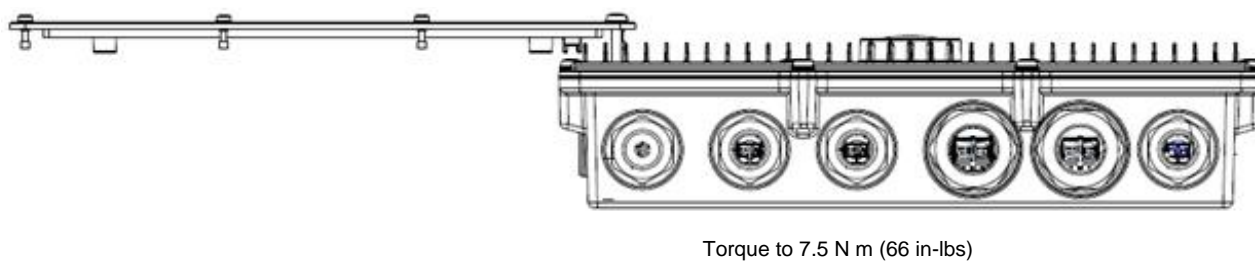

Figure 27: Secure the small top cover
The rectifier is equipped with plug-in AC input connectors located on the bottom of the enclosure. Mating connectors are provided. Customer must provide wiring to the mating connector. See Figure 21. Refer also to Figure 18 through Figure 27. See also “Customer Wiring to the Mating Connectors” starting on page 25.
**NOTE!** Refer to Figure 18 through Figure 27 as this procedure is performed.
7. Rotate small cover counterclockwise 180° around the M6 screw and tighten all screws on the cover. Refer to Figure 27.